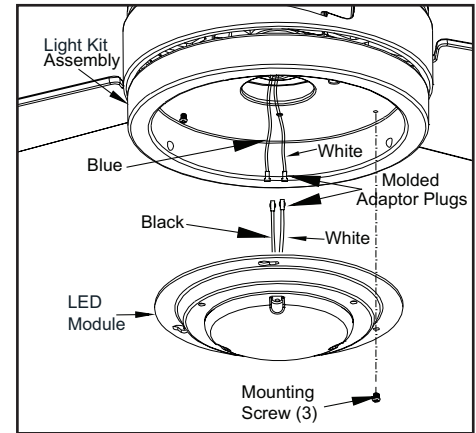

Figure 14
3. Remove one screw from the light kit pan and loosen, but do not remove, the other two screws. Connect the wires from the light kit assembly to the wires from the fan motor assembly by connecting the molded adaptor plugs together. Carefully tuck all wires and splices into the switch cap. (Figure 14)